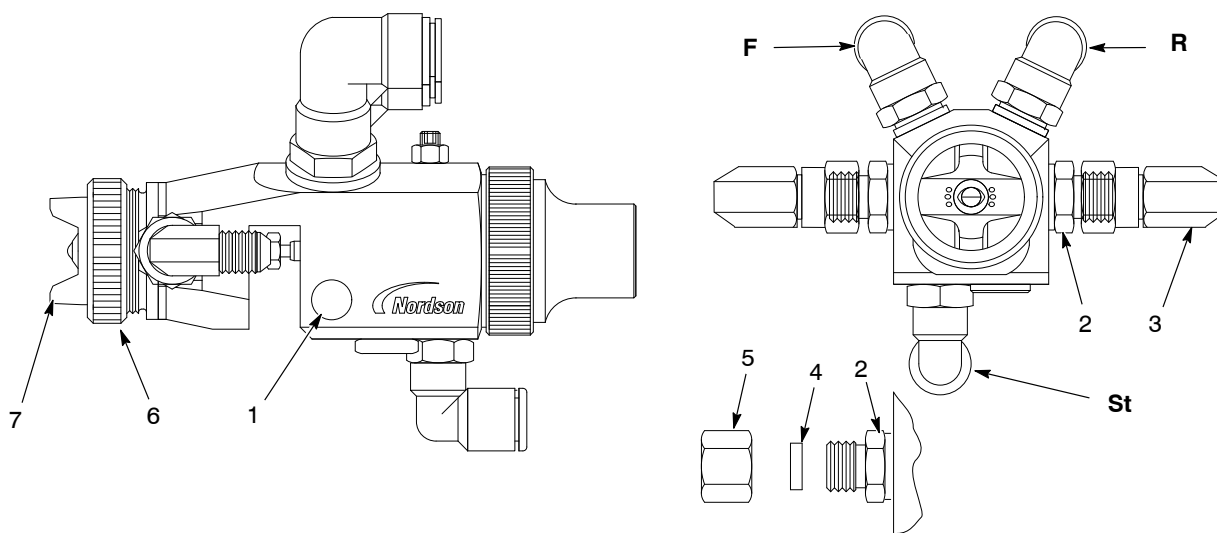

Figure 1 Trilogy AAA Automatic Spray Gun
1. See Figure 1. Using the 10-mm mounting hole (1), mount the spray gun as desired. If using 1/2 in. mounting bars, use the 10 mm to 1/2 in. adapter included with the gun.
2. Connect 1/4 in. (US) or 8 mm (EU) trigger air tubing to the fitting marked **St**.
See Figures 1 and 2. Triggering of the spray gun is accomplished by applying air to the **St** port. Spray pattern adjustments can be made as follows:
Fan Pattern Orientation	<ol style="list-style-type: none"> 1. Relieve all pressure to the spray gun. 2. See Figure 1. Loosen the air cap retainer (6). 3. Rotate the air cap (7) to the desired position. 4. Tighten the retainer securely.